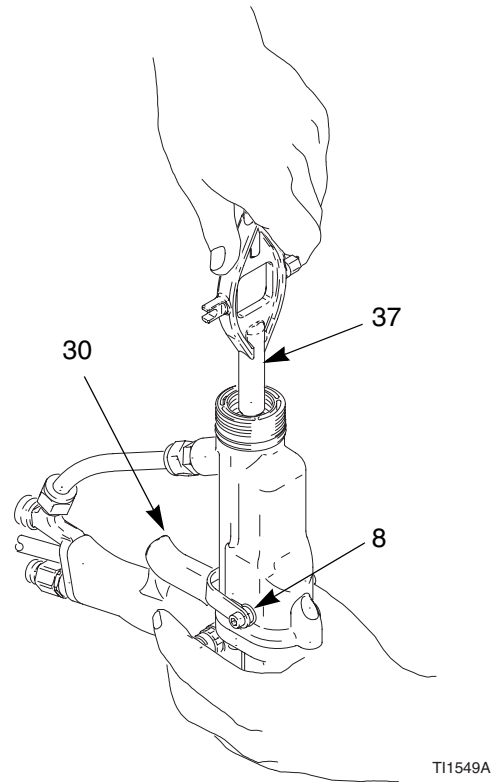

Fig. 11. Fluid Packing Removal
4. Remove the trigger screws (8) and trigger (30). See FIG. 11.
5. Remove the packing rod (26), using the multi-tool (37).